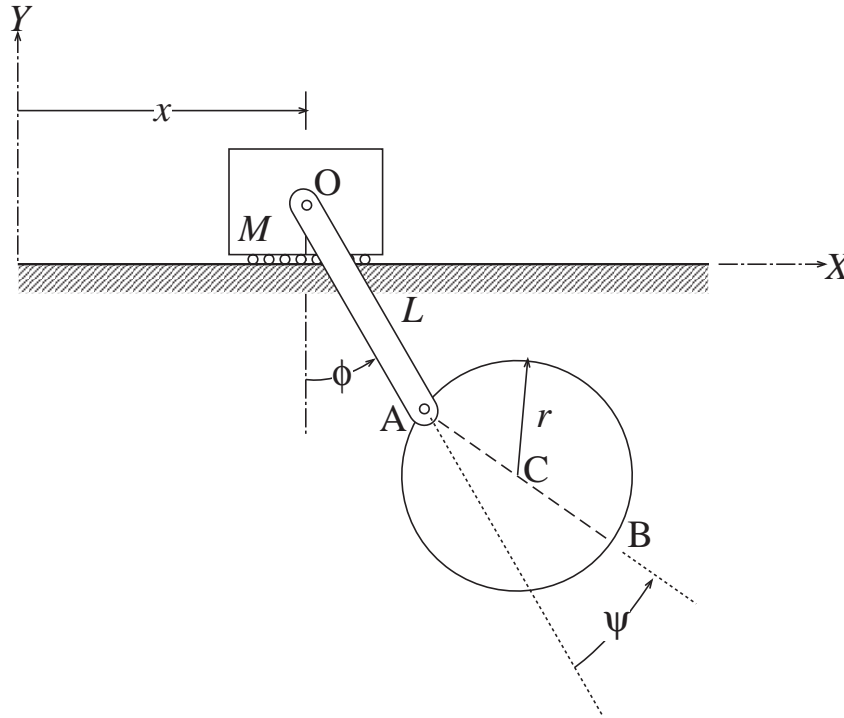

Figure 5: Three rigid bodies constrained to have three degrees of freedom.
**Problem 3. Motion of three-degree-of-freedom system.** The variables  $x$ ,  $\phi$ , and  $\psi$  form a complete and independent set of generalized coordinates for the system shown in Fig.5.
- (b) To find the velocity components of the point A, first obtain the displacement components and then differentiate them with respect to time. From Fig.5 it is seen that